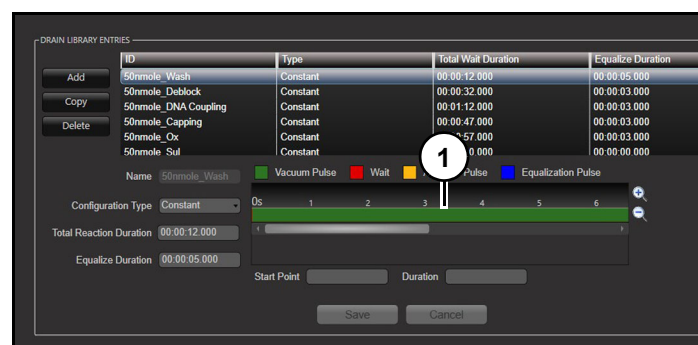

Figure 27
A constant vacuum pulse (1) (Figure 27) is a pulse that applies same length of vacuum to column chuck regardless of number of active columns. This is default vacuum setting when a new pulse is added to drain library and used most often. There is no compensation for dropped columns and is possible to find a good working range where dropouts do not negatively affect other columns.